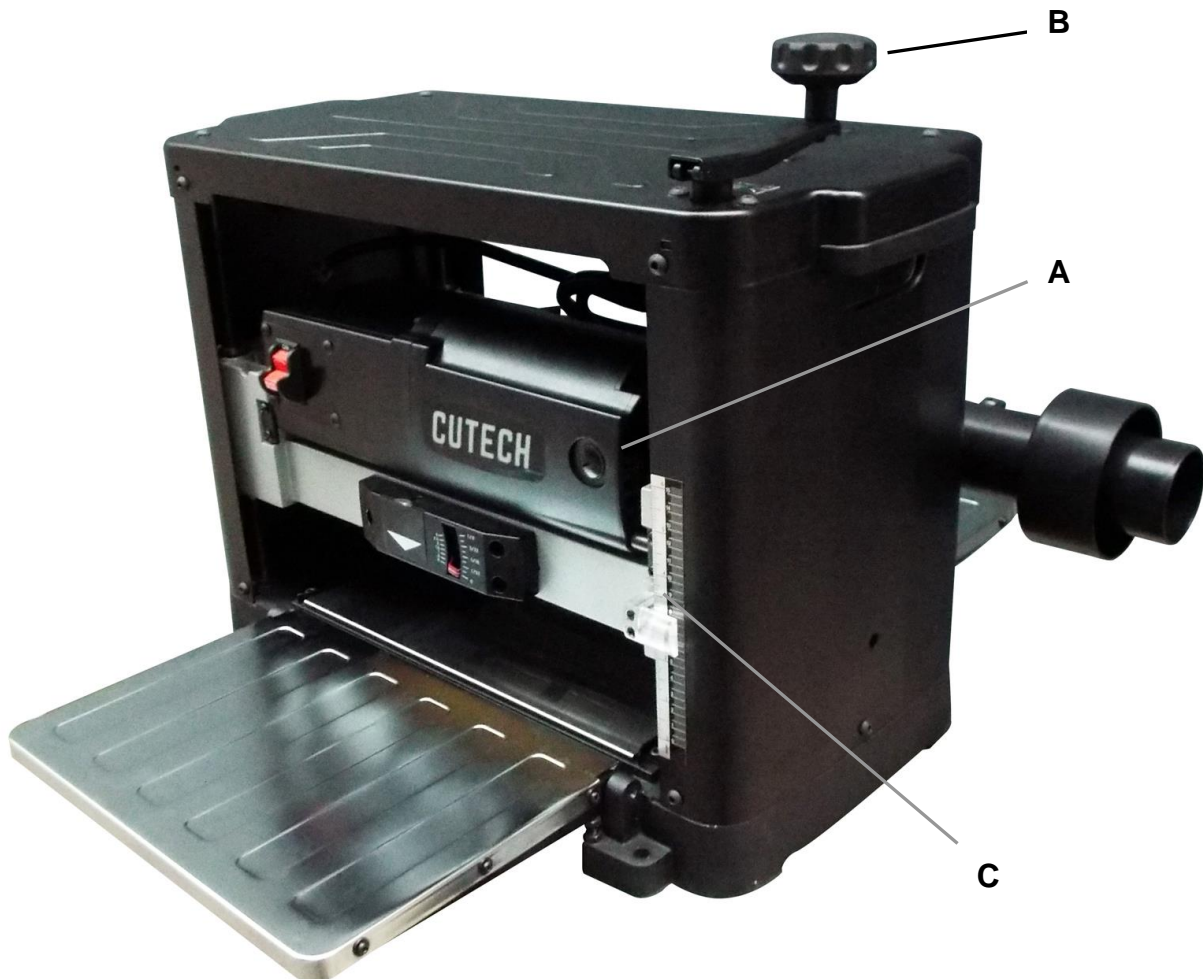

FIG 5
1. To raise the head assembly (A), turn the adjusting handle (B) clockwise. SEE FIG 5.
**NOTE:** One revolution of the handle will move the cutterhead up or down approximately 1/16". You can confirm this by referencing the scale (C) on the front right side of the planer.